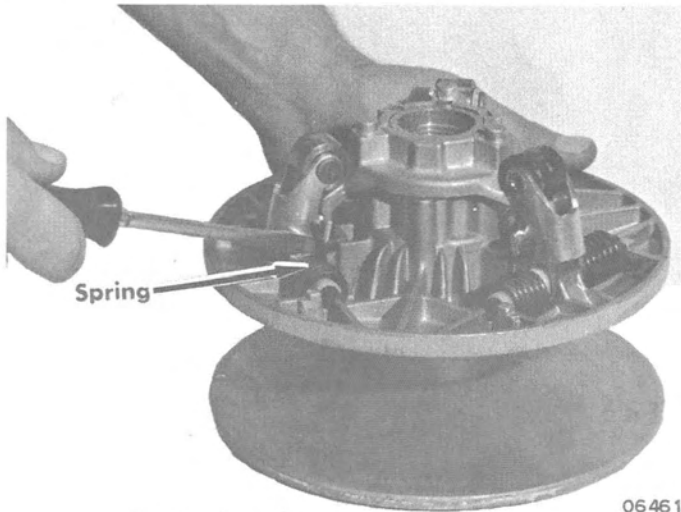

Figure 4. Releasing Spring Tension
1. Remove springs from roller arms with a screwdriver. (Figure 4)